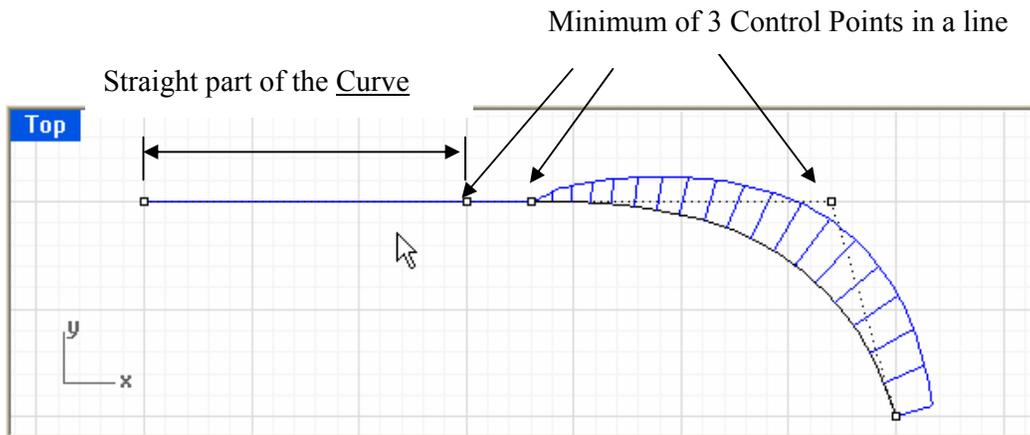

Figure 0-7 Fairing into a straight line. (Tip: set Ortho on when drawing the control points in x, y or z direction)
Use at least three (3) control points in line to fair into a straight line. See Figure 0-7.